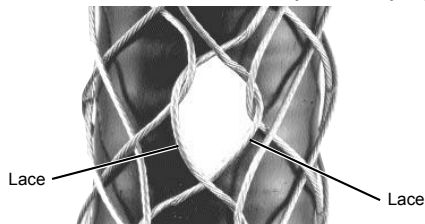

Figure 4
4. Continue lacing so that the seam is straight and the lace is pulled so that the space between both sides of the seam is no greater than the spaces of the mesh next to the loop. **See Figure 4. Do not skip any loop pairs of the grip when lacing;** this will weaken the hoisting grip. The grip can be compressed from bottom to top to simplify lacing.